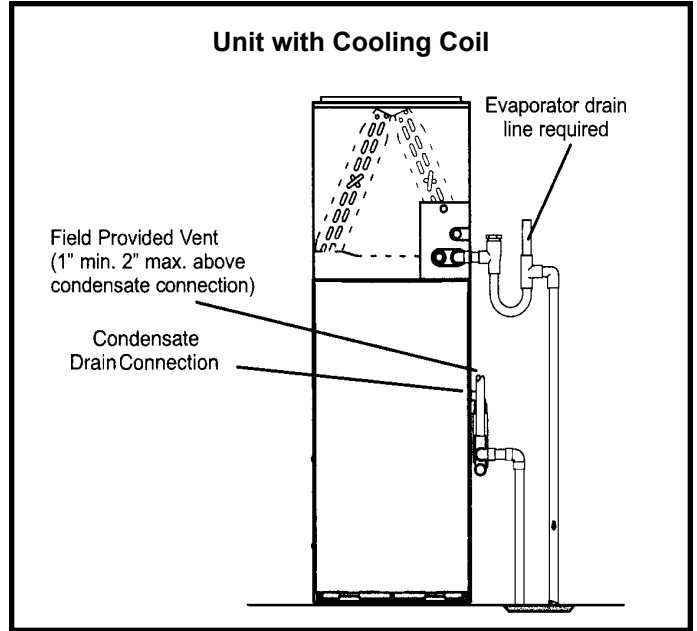

Figure 52
5. Figures 52 and 53 show the furnace and evaporator coil using a separate drain. If necessary the condensate line from the furnace and evaporator coil can drain together. See Figure 55 and 56.